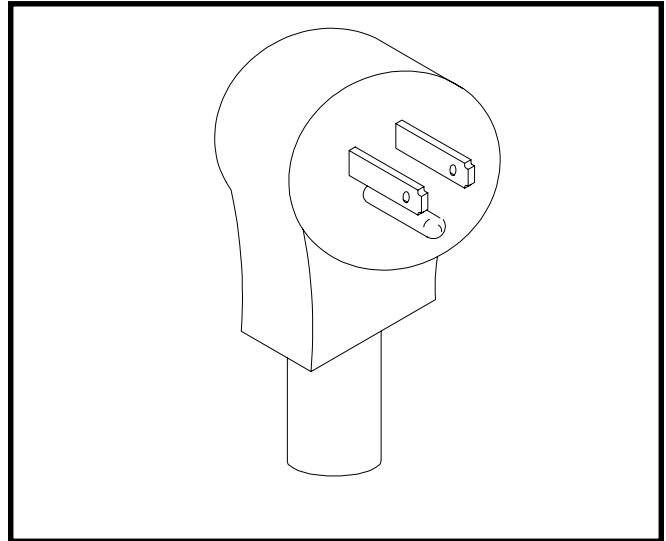

Figure 9
F. Connect the power cord. The plug is designed for 115 volt/15 amp duty. The unit must be connected to a properly grounded receptacle. The electrical cord furnished as part of the freezer has a three prong grounding type plug (Fig.9). The use of an extension cord is not recommended. If one must be used, use one with a wire, size 12 gauge or heavier, with a ground. Do not use an adaptor to avoid grounding equipment.